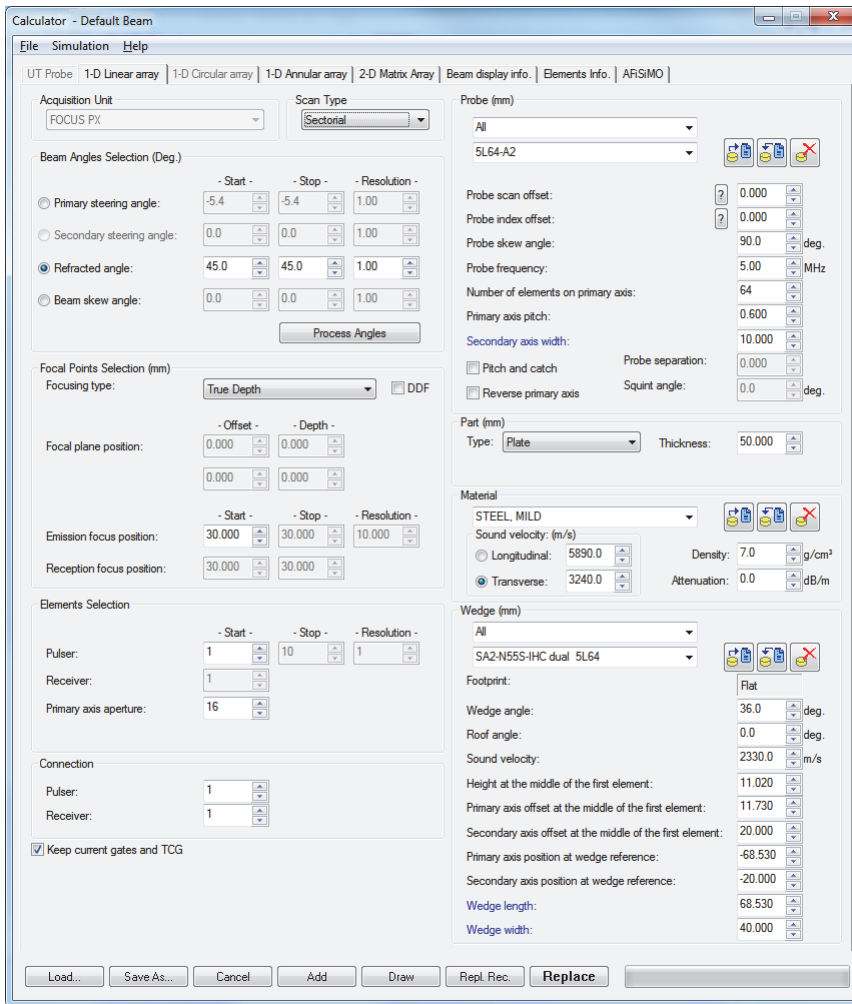

Figure 4-5 Calculator dialog box
- a) For an angle beam phased array inspection, click the **1-D Linear Array** tab (Figure 4-5 on page 102).